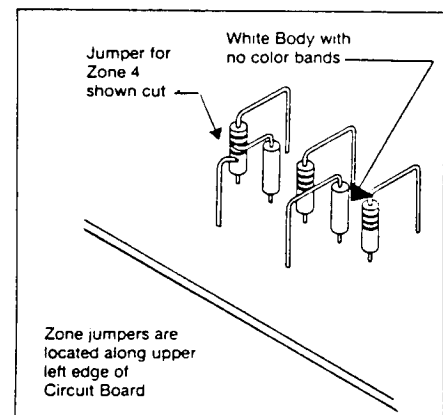

FIGURE 8. NON-SUPERVISED ZONE JUMPERS
If end-of-line resistor supervision is not desired, a conventional closed circuit loop may be connected directly to the appropriate zone input terminals by first cutting a corresponding zone jumper on the control board. See FIGURE 8 and FIGURE 18. These jumpers are labeled Z-01 thru Z-08. The same applies to zones 09 - 16 when an optional Z234 Zone Expander is used.
- Cut corresponding zone jumper if end-of-line resistor supervision is not required (see figure 8).